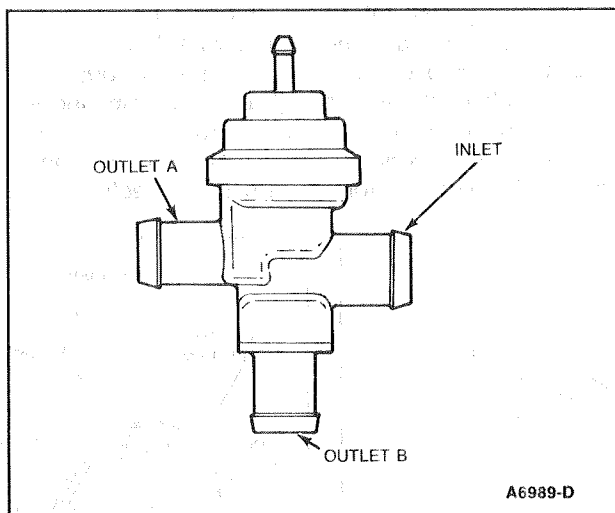

Figure 1 Standard Air Control Valve
2. Disconnect the air supply hose at outlets A and B (Figure 1).